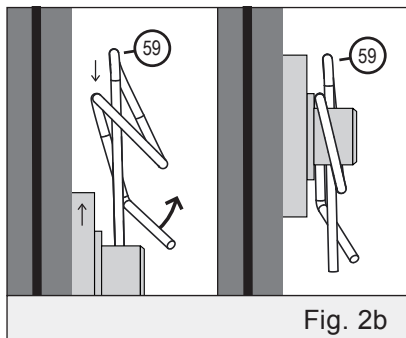

Fig. 2b
2. Add 1 washer (60) to the wheel axle (32), then slide on the tire (65) and another washer (60).
Secure in place with the Rue Ring Locking Pin (59). (See figures 2b and 3c below).